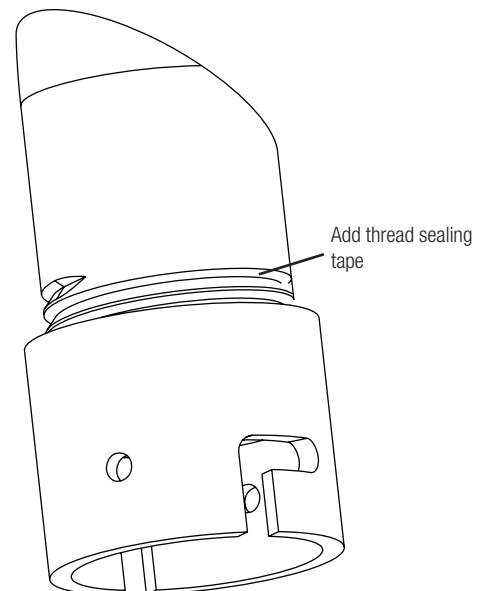

Figure 2
2. Attach the housing coupling (**Figure 2**).